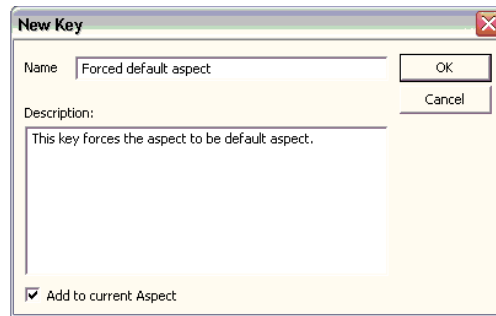

Figure 133. New Key
3. Give the key a name and a description. See Figure 133.